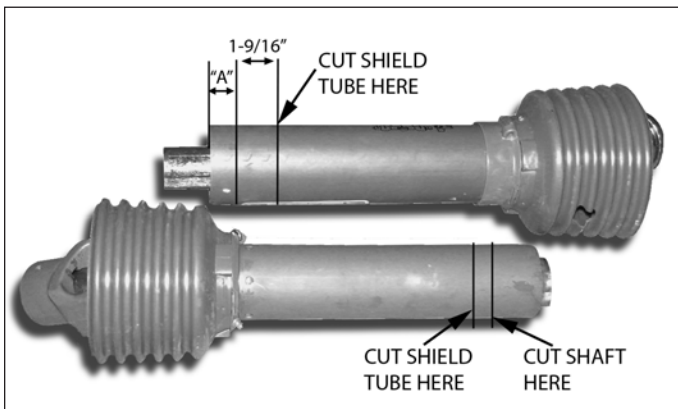

Figure 3: Shorten the driveline if it is too long
2. Measure the distance from the end of one driveline tube to the bottom of the end shield of the other driveline half (dimension A in Figure 3). Measure and mark the driveline tube 1-9/16" inward from dimension A.